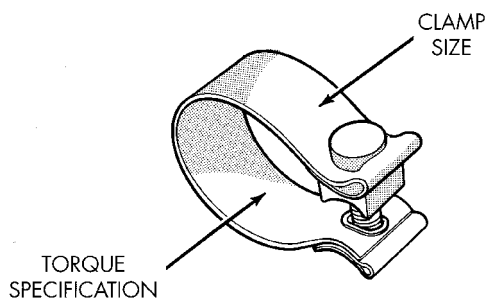

Fig. 10 Band Clamp (Torca)
- (7) Connect the downstream heated oxygen sensor.
- (8) A new style band clamp (Torca) will be used on the PL exhaust system (Fig. 10).